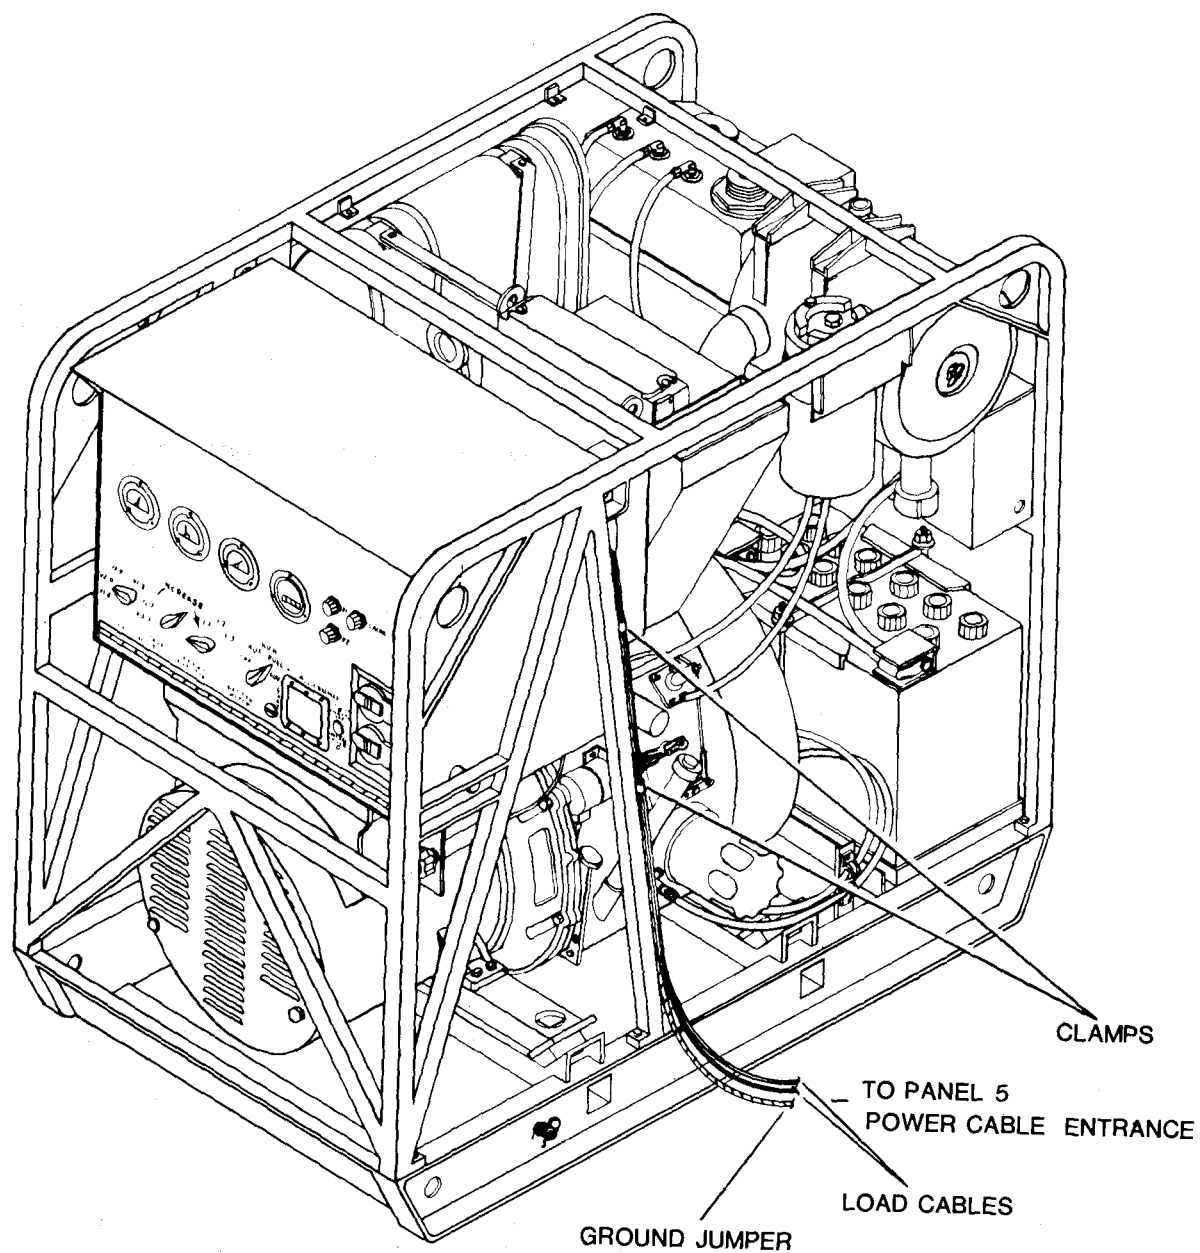

Figure 5-7. Ground Jumper and Load Cables Installation.
- c. Loosen the two 3/4-inch clamps (Figure 5-7) and route the ground jumper through the clamps. (Figure is shown with panels removed.)